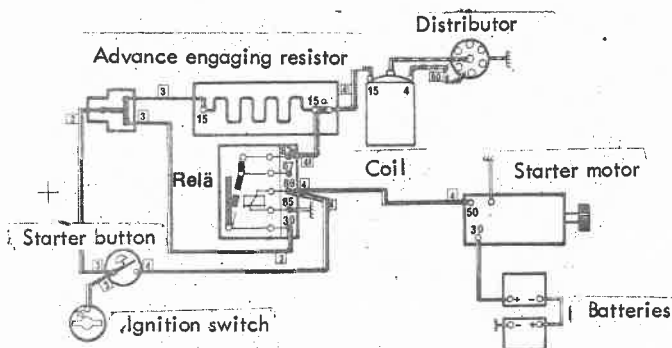

Fig. 34-3. Starter relay with advance engaging resistor, wiring diagram
The ignition coil will then be fed directly by battery voltage, see wiring diagram in Fig. 34-3.
1. Connect an ohmmeter between the advance engaging resistor's two terminals, see Fig. 34-3. The resistance must be 4.1-4.5 Ω at 20°C (68°F).